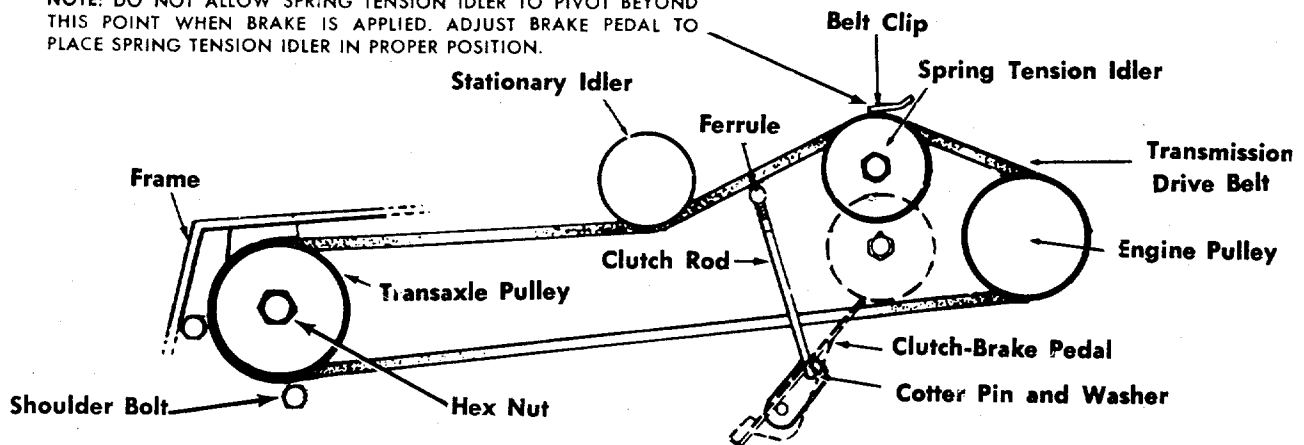

FIGURE 30. CLUTCH BRAKE PEDAL ADJUSTMENT
To adjust the angle of the clutch-brake pedal, remove the cotter pin and washer on the clutch rod and turn the clutch rod in or out of the ferrule to obtain the most comfortable angle of the pedal when the pedal is released. Replace the washer and cotter pin. See figure 30.
If the spring tension idler goes below the height of the engine pulley when the clutch-brake pedal is depressed it will cause excessive belt wear and the brake should be adjusted. See figure 30.
- Step 4. Remove the shoulder bolt near the transaxle pulley. See figure 30.